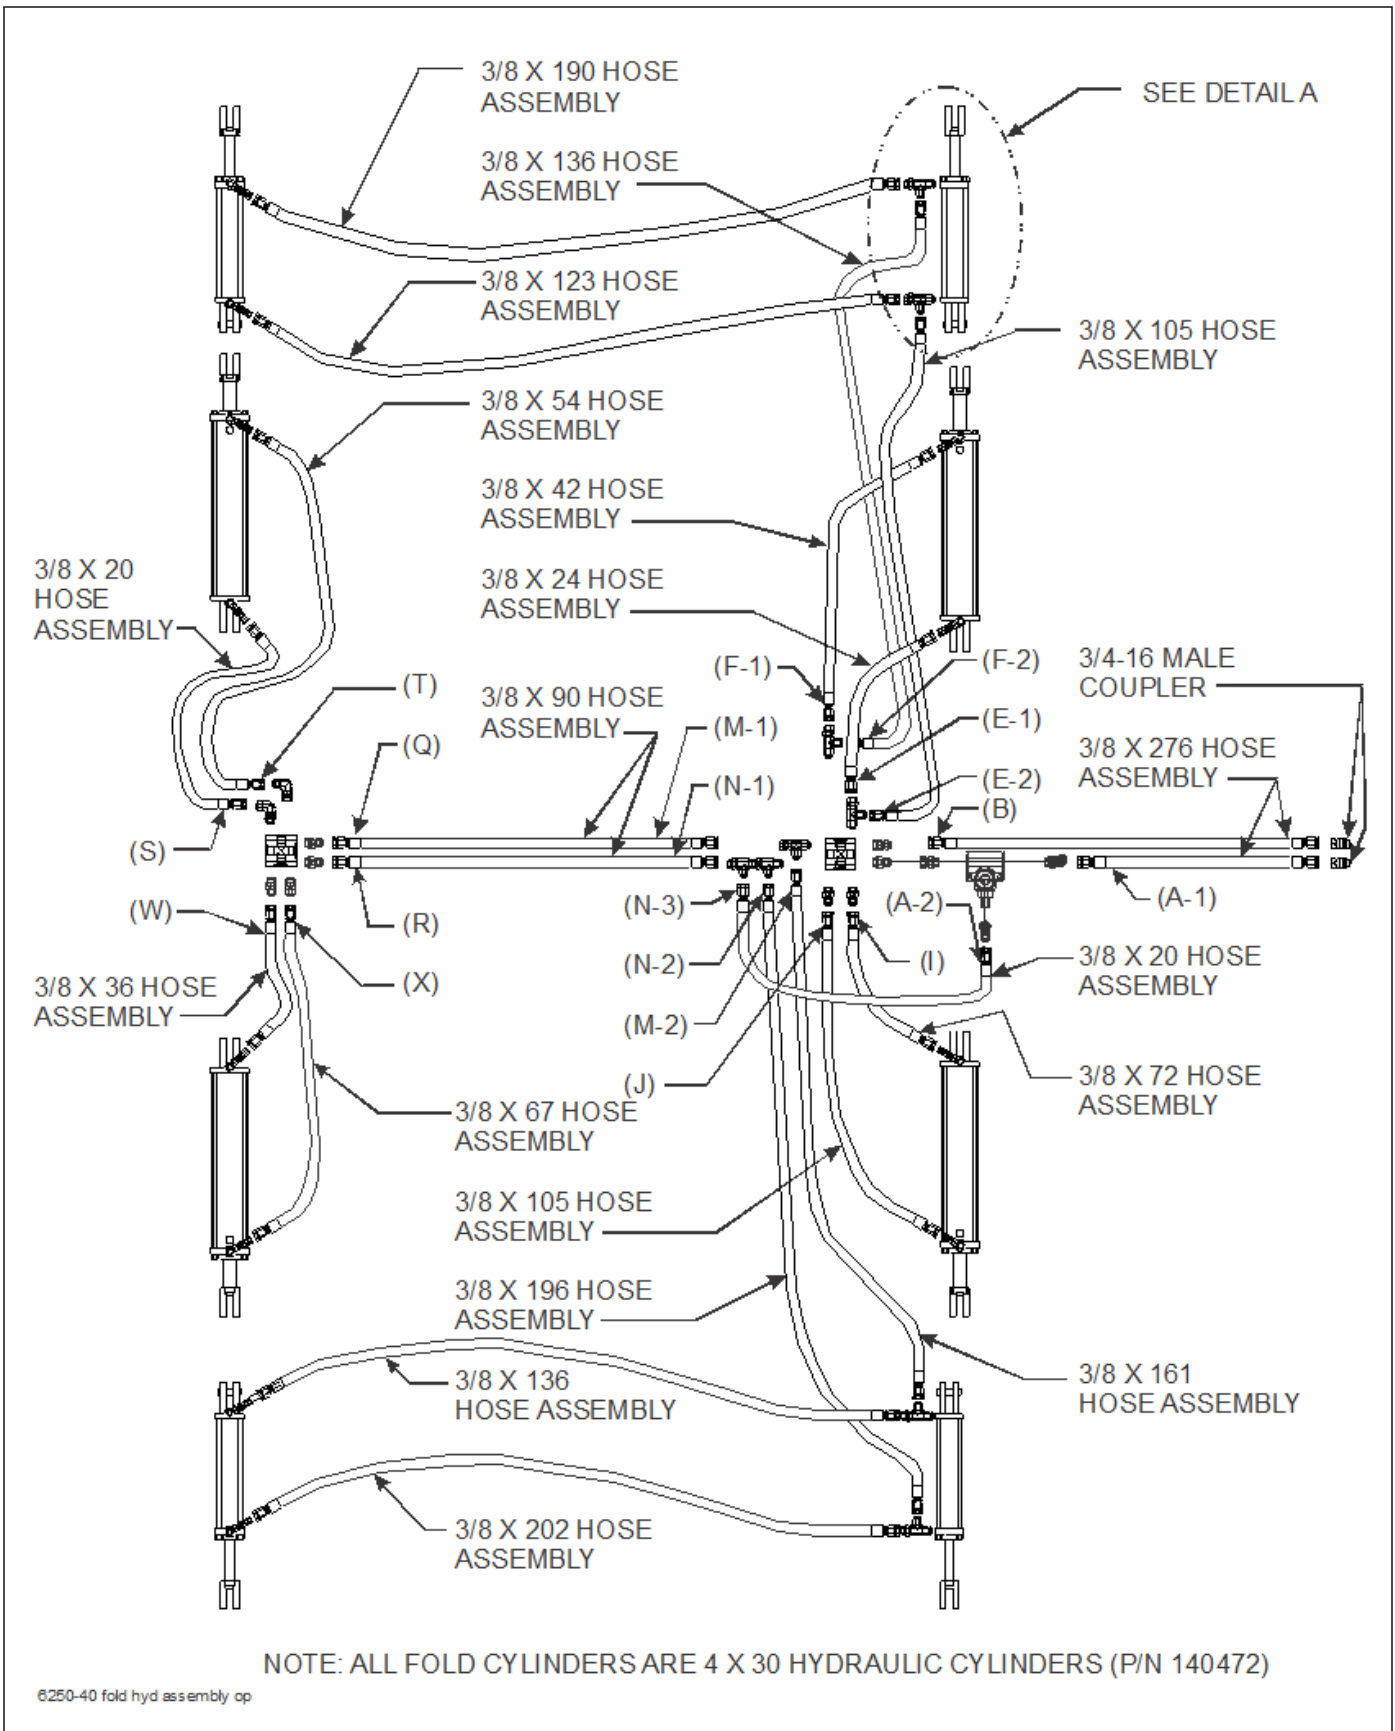
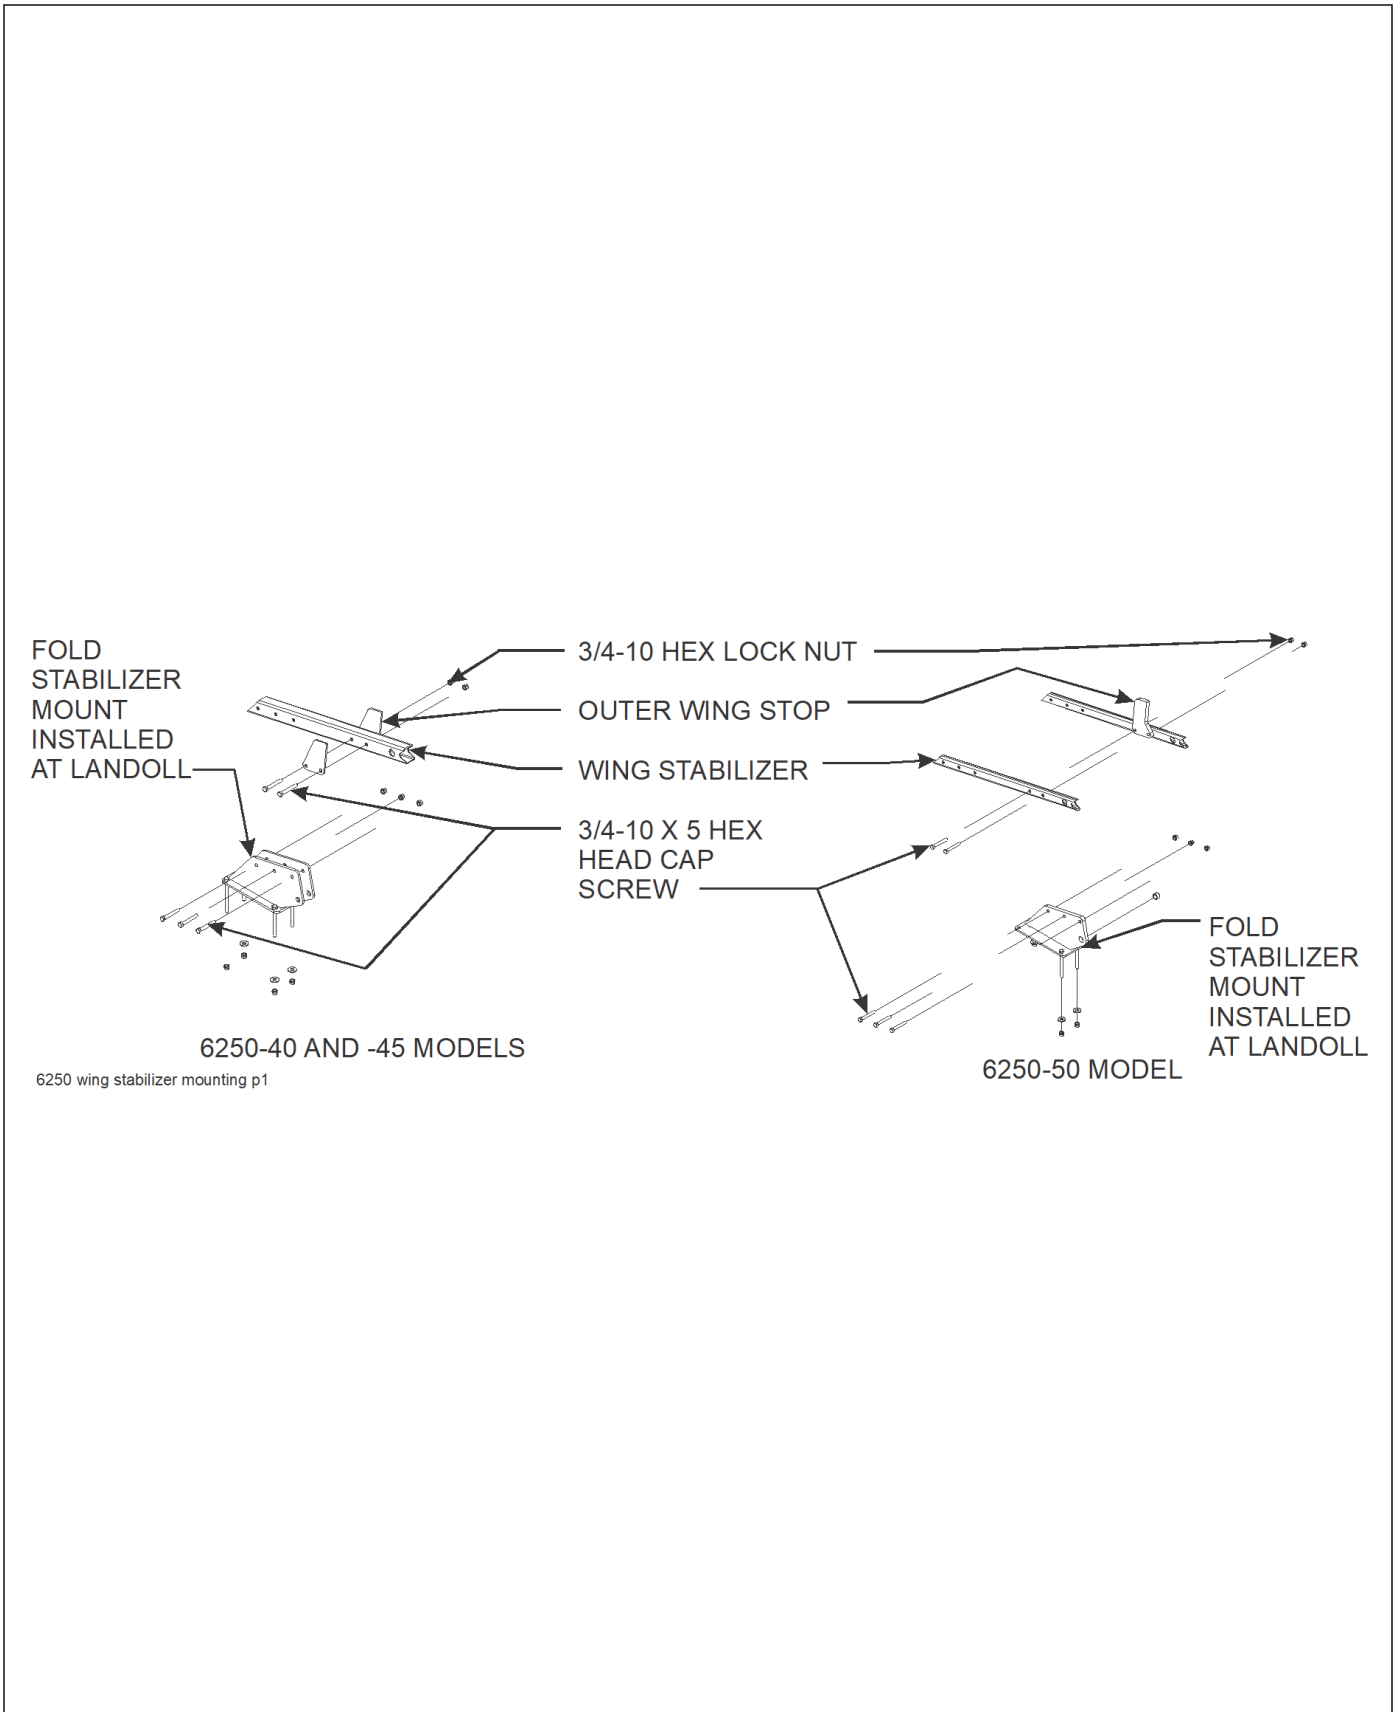

Figure 3-12: Fold Hydraulic Installation (40' Model)
Figure 3-20: Wing Stabilizer Bracket Mounting Installation
10. Install fold system hoses per **Figures 3-12, 3-14, and 3-16**. Wrap fold system hoses with yellow hose wrap.
11. Install red 1/32" restrictors, (2) 290" hoses, and couplers in the hydraulic leveler. Wrap hydraulic leveler hoses with black hose wrap.
12. Attach outer wing stops and wing stabilizer to fold stabilizer mount using 3/4-10 x 5 hex head cap screws and hex lock nuts (**See Figure 3-20**.)